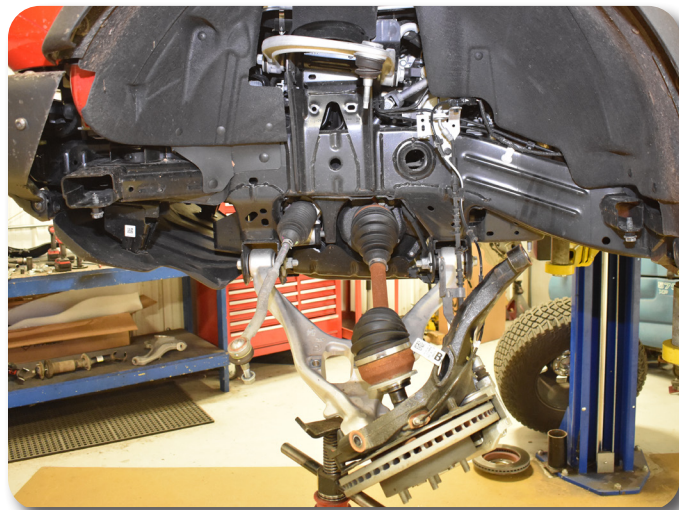

Figure 10
13. Using the jack, lower the lower control arm / knuckle assembly and remove the strut from the vehicle Figure 10.